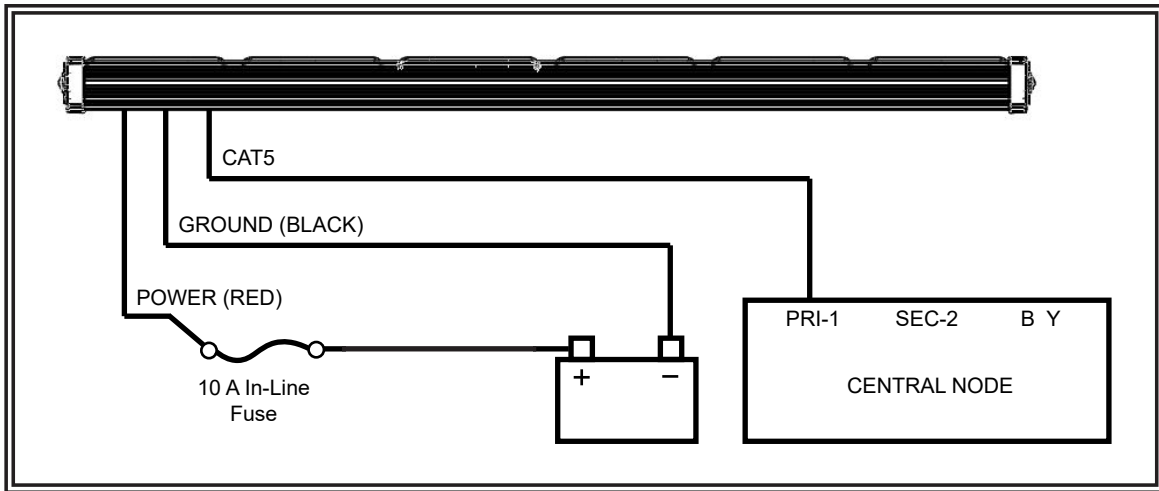

Figure 3
Before attempting to connect the unit's wiring harness, refer to the wiring diagram in FIGURE 3. The wiring diagram describes the function for each wire.
Step 1. After the lightbar has been mounted, route the power cable's red wire to a fused, nominal 12 VDC power supply as shown in FIGURE 3. Use an in-line 10 amp slow blow fuse on the positive line. Connect the black wire directly to the negative battery terminal. A minimum size of 18 AWG wire should be used on the power and ground lines.